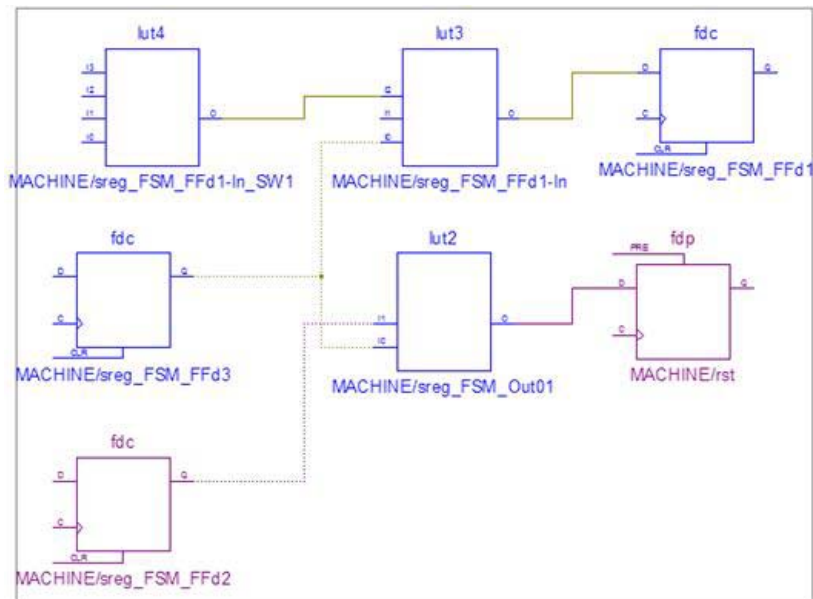

Figure 4-19: Show All Block Inputs and Outputs
2. Right-click the **lut2** primitive, and select **Show All Block Inputs/Outputs**. See Figure 4-19.